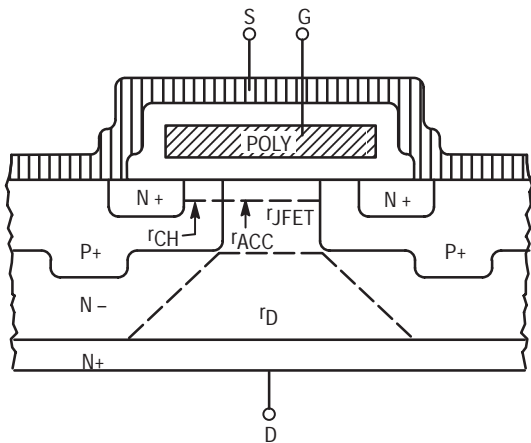

Figure 1-7. TMOS Device On-Resistance
When a gate voltage of appropriate polarity and magnitude is applied to the gate terminal, the polysilicon gate induces an inversion layer at the surface of the diffused channel region represented by rCH in Figure 1-7 (page A-8). This inversion layer or channel connects the source to the lightly doped region of the drain and current begins to flow. For small values of applied drain-to-source voltage, VDS, drain current increases linearly and can be represented by Equation (1).
Threshold voltage is the gate-to-source voltage required to achieve surface inversion of the diffused channel region, (rCH in Figure 1-7) and as a result, conduction in the channel.
On-resistance is defined as the total resistance encountered by the drain current as it flows from the drain terminal to the source terminal. Referring to Figure 1-7, RDS(on) is composed primarily of four resistive components associated with: